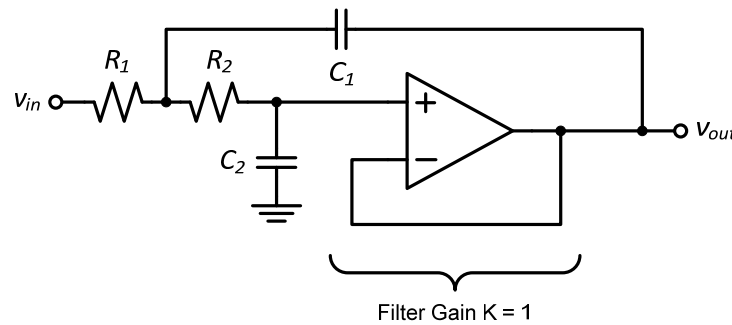

Figure 3. Sallen-Key filter used to implement each filter stage.
- a) Design the first filter stage, *Filter Stage 1*, to give you poles $p_{1,2}$ of the filter. Use the Sallen-Key topology shown in Figure 3. Refer to the Sallen & Key paper to choose value for the components.
- b) Design the second filter stage, *Filter Stage 2*, to give you poles $p_{3,4}$ of the filter. Again, use the Sallen-Key topology shown in Figure 3. Choose values for R_1 , R_2 , C_1 , and C_2 for the second filter stage given your calculations for ω_n and d for the second filter stage from P2.1 a).